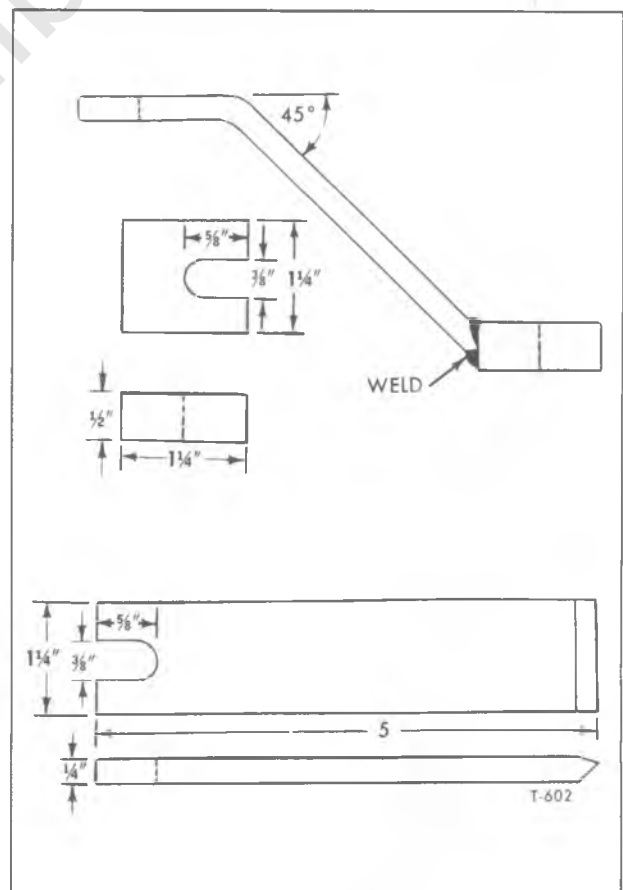

Figure 11—Improved Tool Dimensions (for Checking 1/2-Inch Clearance)
**NOTE:** A tool for checking the 1/2" clearance can be improvised locally as shown in figure 11. Perform the following when using this tool: